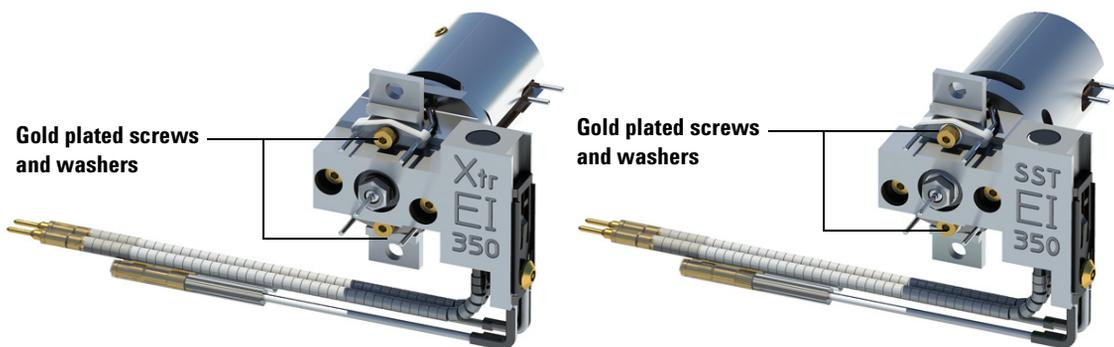

Figure 61 Changing the filament
- 4 Remove the gold plated screw and washer for the filaments. (See Figure 61 on page 192.)
- 5 Secure the new filaments with the gold plated screw and washer. (See Figure 61.)